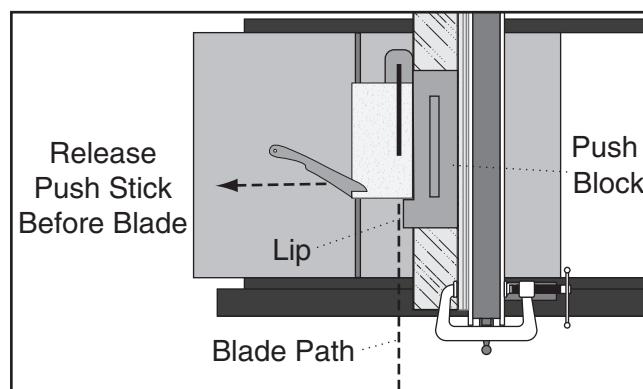

Figure 88. Ripping with push block.
6. Guide the workpiece the rest of the way through the cut with the push block, as shown in **Figure 88**.